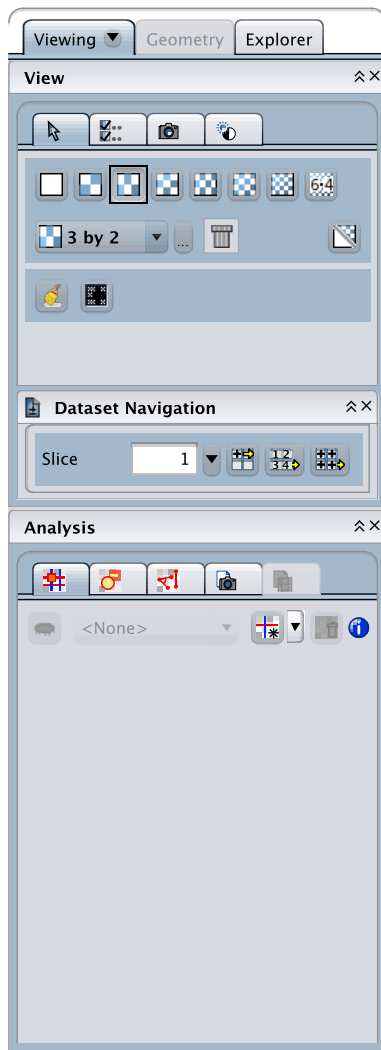

Figure 1.109: Palette Viewing
- ▶ The Palette Viewing is displayed (see [Figure 1.109 \[▶ 134\]](#))
The individual tools are described in detail below. Each tool can also be displayed in a separate section using the undock ↗ arrow, see [Figure 1.109 \[p 134\]](#). In this Figure, the Dataset Navigation tool is undocked. To reverse the undocking, simply close the respective section.